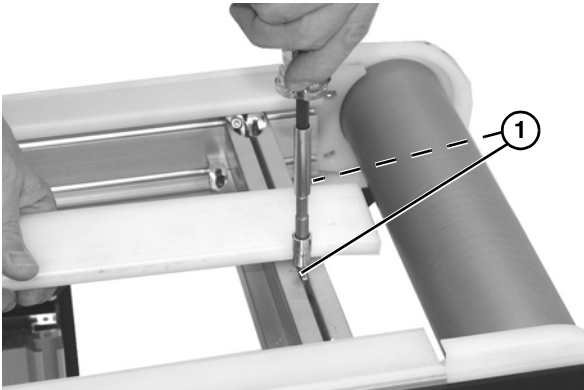

Figure 20
3. Remove two screws (**Figure 20, item 1**) from each clamp on center frame channel.